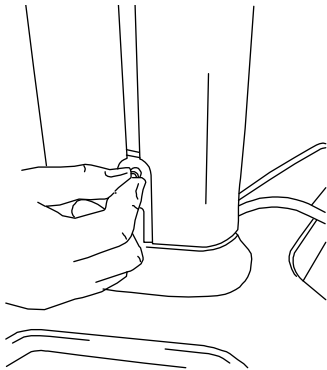
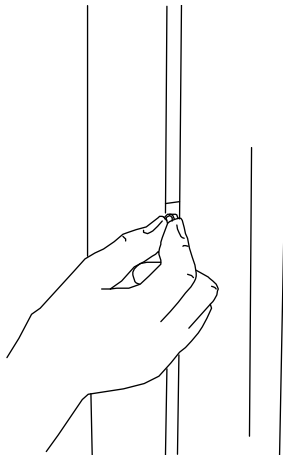

Figure 9 Insert nut plate.
Figure 10 Slide nut plate up column.
- 1 Insert a nut plate into the groove at the lower back of the column, and slide it up the column. See Figure 9 and Figure 10.